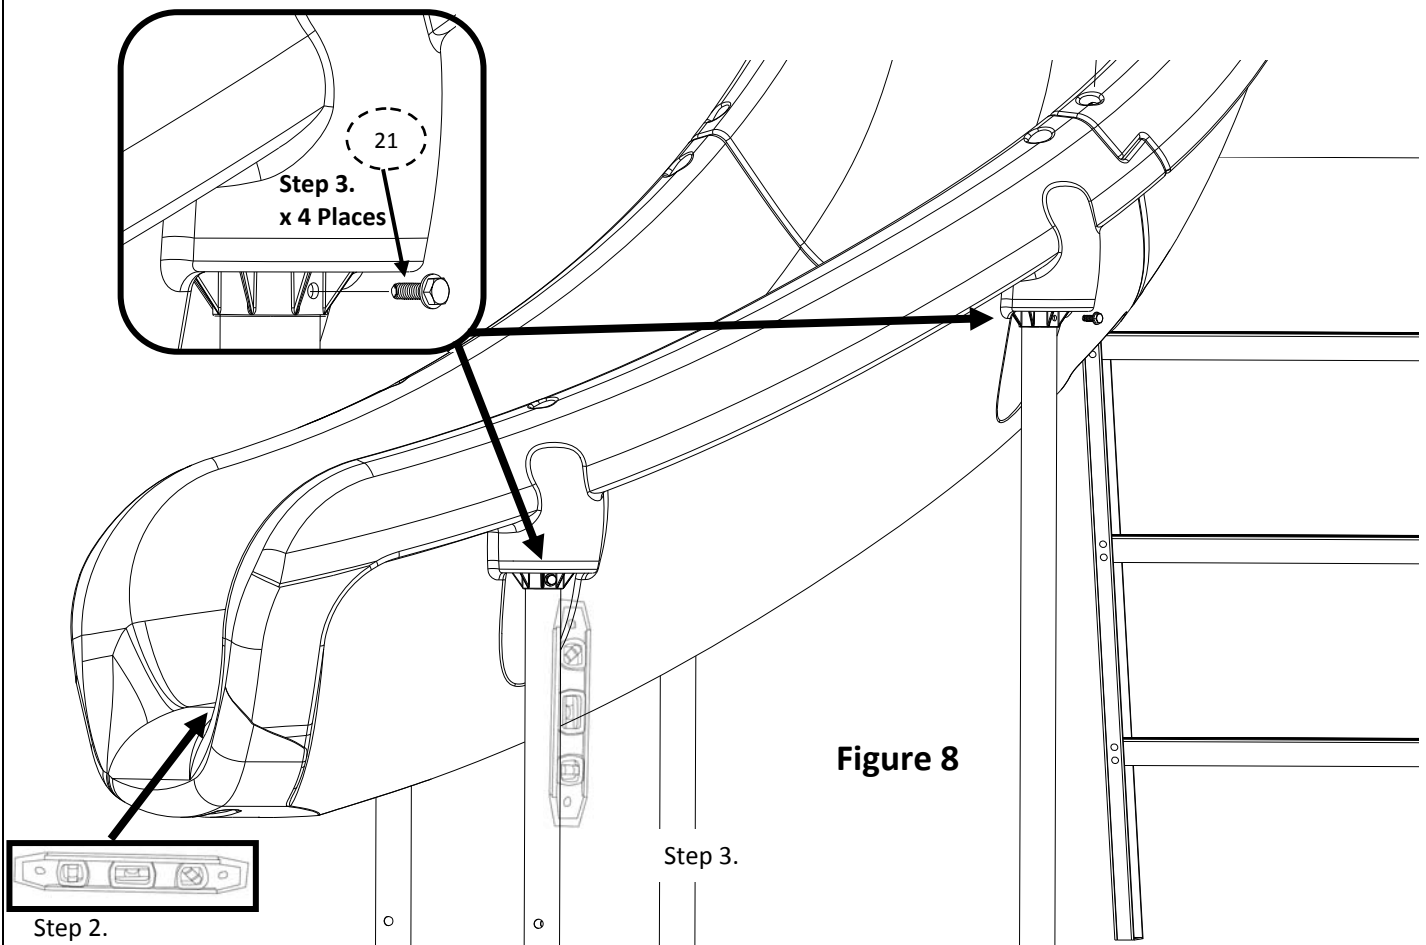

Figure 8
- 10) The legs can be adjusted up and down within the leg sockets to help adjust for level. Once the slide is properly leveled the legs shall be permanently attached by drilling a 1/4" hole into each leg using the hole on the leg socket as a guide and fastening with a (#21) 5/16" Hex Head Washer Tek Head Screw. See Figure 8.